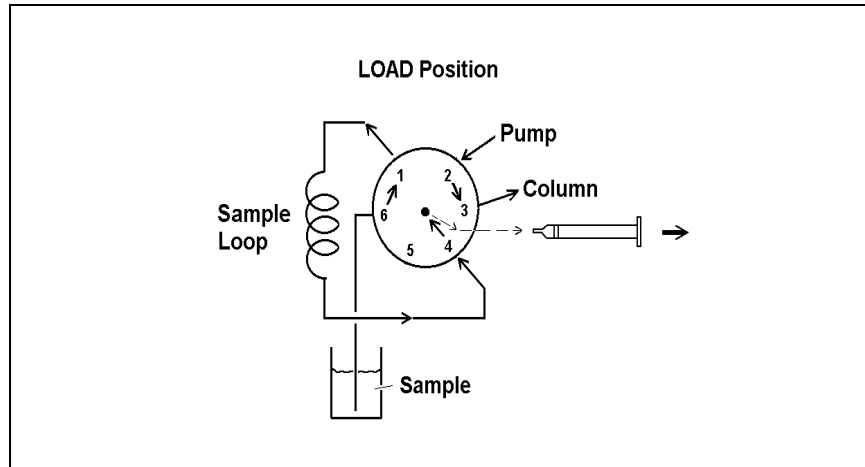

Figure 3-7. Drawing Sample
2. ***Drawing sample through the waste line:*** Place the injection valve into its **LOAD** position. Insert the syringe into the needle port on the Rheodyne valve, place the valve waste line (port #6) into the sample container (see Figure 3-7). Draw sample into the loop through the injection valve waste line. No sample will come into contact with the metal needle of the loading syringe. Remove the sample from the sample container. Leave the syringe in the needle port until the injection valve knob has been switched to **INJECT**.